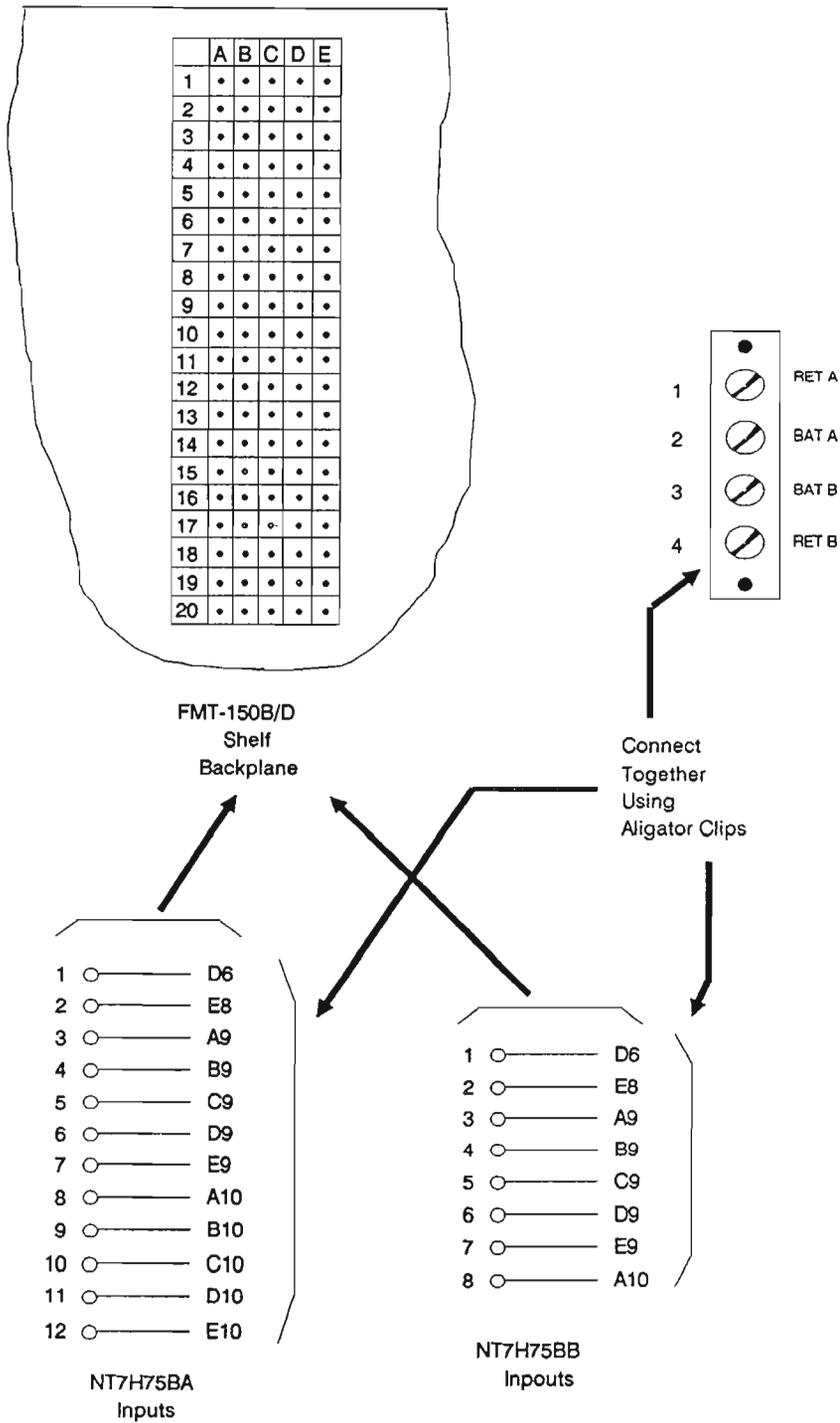

Figure 8
Ref. Fig. 8
1. Connect the customer input under test to battery return using a mini-alligator clip, as shown in Fig. 8.